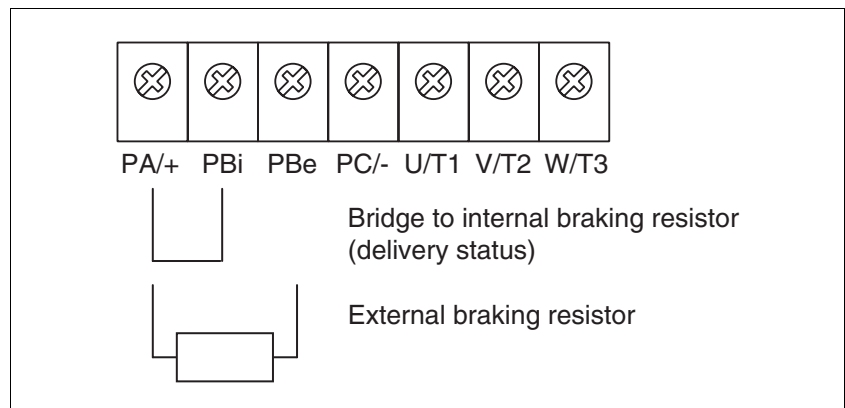

Figure 6.9 Wiring diagram, braking resistor
- Remove the jumper, see Figure 6.9.
- Connect the braking resistor to the device, see Figure 6.9.